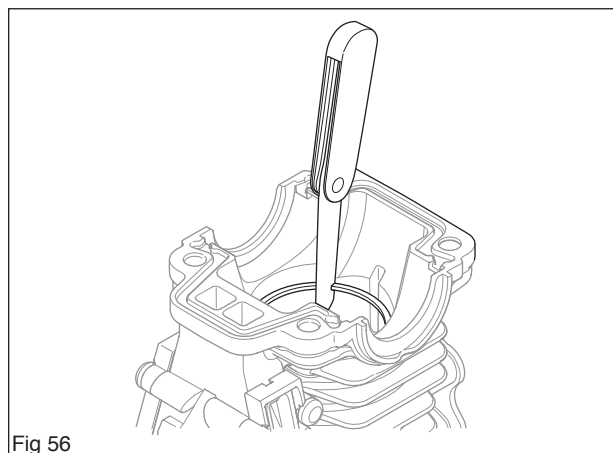

Fig 56
- Measure piston ring wear. This should not exceed 1 mm. (see figure 56) Use the piston to push the piston ring for correct alignment.